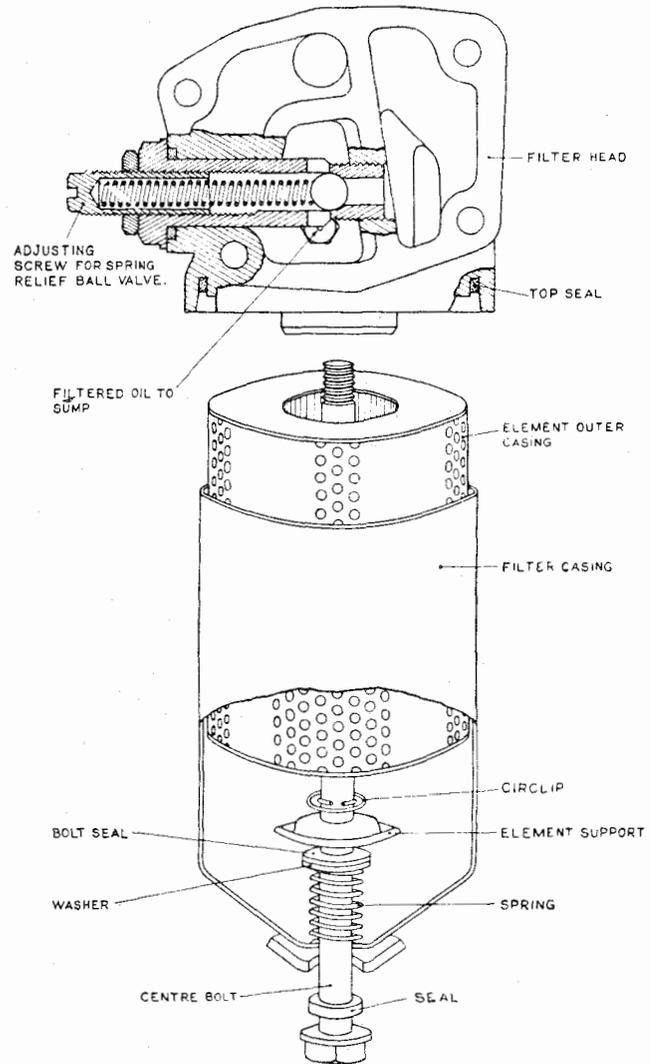

Fig. 29
18. THE "PUROLATOR MICRONIC" OIL FILTER —TYPE 17F. 5102 (Fig. 29)